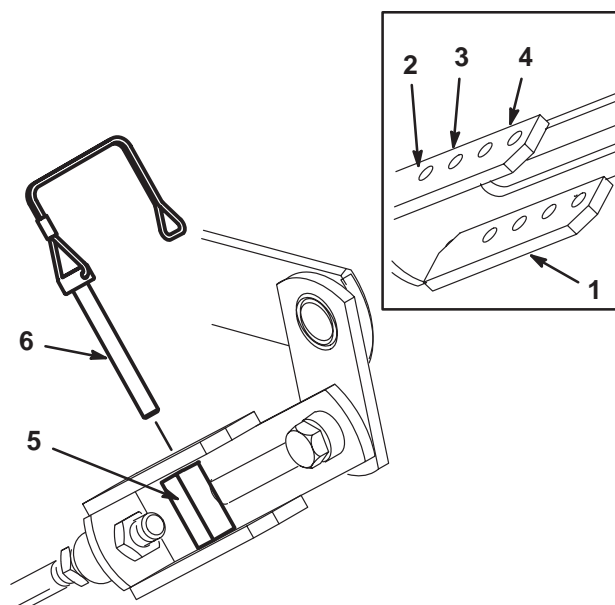

Figure 6
Note: Refer to the inset in Figure 6 for settings.
6. Install the block into the lift arm adjuster, align the mounting holes, and secure the block to the lift arm adjuster with the lock pin (Fig. 6).
- A. Position the lift arm adjuster blocks to the lockout position (Fig. 6).